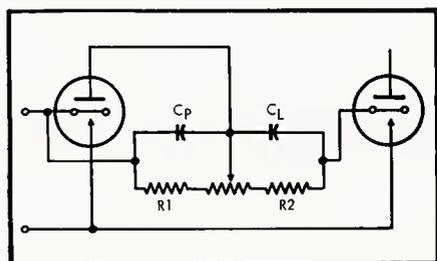

Fig. 6. Basic circuit for the bass control.
For bass control, the ends of a potentiometer are connected as shown in Fig. 6, with the slider connected to the collector. As the slider is moved to the right, Z_F remains capacitive and rising as the frequency is lowered, while Z_L becomes resistive and therefore constant with frequency. Thus, according to Eq. (1), the bass signals are increased relative to midband signals. Conversely, as the slider is moved to the left, the denominator of Eq. (1) increases while the numerator remains constant as the frequency is lowered, thereby producing bass attenuation. In each case, as the resistance is varied, the turnover frequency, or frequency at which the response departs from its midband value, varies, thereby producing the desired variable turnover characteristics. The resistors R_1 and R_2 limit the maximum bass turnover frequency to a suitable design value, such as 800 cps.
Z_F for treble boost, or with Z_L for treble attenuate, as may be seen easily by inspection of Eq. (1). For the case of treble boost, Z_F will comprise the series combination of the fixed feedback capacitor and the series resistance. The turnover frequency will be given by equating this resistance to the reactance of the feedback capacitor. Treble attenuation is obtained by removing the resistance in series with the feedback capacitor and inserting resistance in series with the load capacitor. The turnover for treble attenuation is the frequency at which the inserted resistance equals the reactance of the load capacitor. The series resistance must appear only in one divider arm at a time in order to secure variable turnover characteristics. The arrangement shown at (A) in Fig. 7 using a tapped potentiometer performs this function. As the slider is moved upward, series resistance appears in the feedback lead, but not in the load circuit as shown at (B) in Fig. 7, thereby giving treble boost; conversely, as the slider is moved below the fixed tap, series resistance appears in the load circuit but not in the feedback circuit as indicated at (C) of Fig. 7. The resistance of the potentiometer between the collector and the current division point is negligible compared with the output impedance of the transistor collector, and may be ignored. The combination of the circuits of Figs. 6 and 7 gives the configuration shown in the second stage of Fig. 2.
The choice of a bass-control potentiometer would be as simple as that of the treble control if we had a potentiometer which shunted only one capacitor at a time. If, for example, bass boost is desired, a resistance should be placed in shunt with the load capacitor C_L , and the resistance shunting the feedback capacitor should be negligibly high. If a potentiometer is connected as shown in Fig. 6, the resistance is not removed from its position shunting the feedback capacitor, so that at some very low frequency, the presence of this resistance will cause the response to return from its rising characteristic (as frequency is decreased) to a flat characteristic. Hence, a certain amount of bucking of the boost and attenuate portions of the bass control exists. This may be viewed in another way which may be enlightening. The current divider at the collector of the transistor is essentially a capacitive divider at midfrequencies. At extremely low frequencies, the reactance of both capacitors becomes very high so that we have essentially a resistive divider made up of the resistances of the potentiometer on either side of the slider. The response will therefore be controlled by the capacitive divider